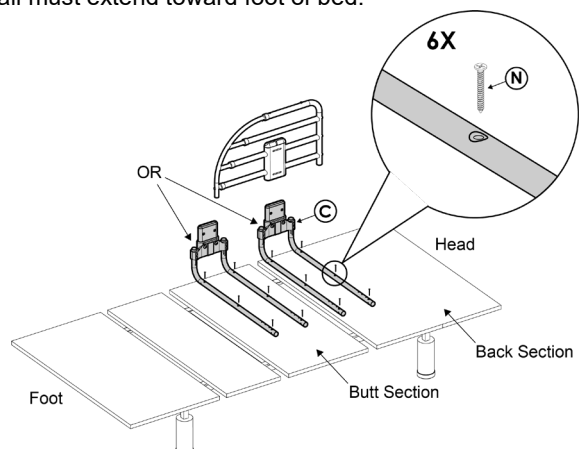

FIGURE 5.1
5.1. Attach assembly to Back Section or Butt Section of mattress base using **N** – do not overtighten screws. See *FIGURE 5.1* IMPORTANT: Installed rail must be at least **12.5"** from end of mattress. There should be no gap between **C** and mattress. Rail must extend toward foot of bed.